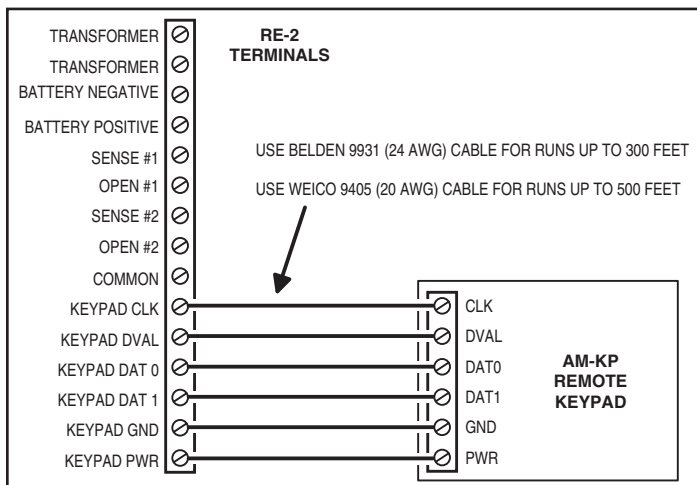

Figure 19. Remote Keypad Wiring
4. Connect the 6-conductor cable as shown in Figure 19.